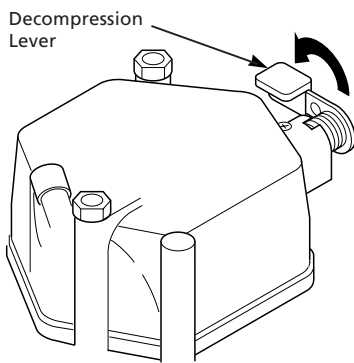

Figure 22- Decompression Lever
- (1) Slowly pull starter rope until you feel strong resistance. Gently return starter rope to engine.
- (2) Push decompression lever all the way down (See Figure 22). Decompression lever will stay in this position until you pull starter rope.